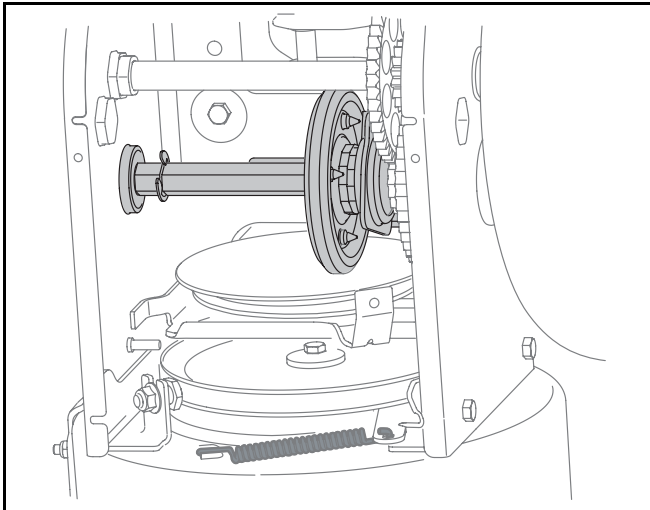

Figure 8
- Apply a light coating of an all-weather multi-purpose grease to the hex shaft. See Figure 8.